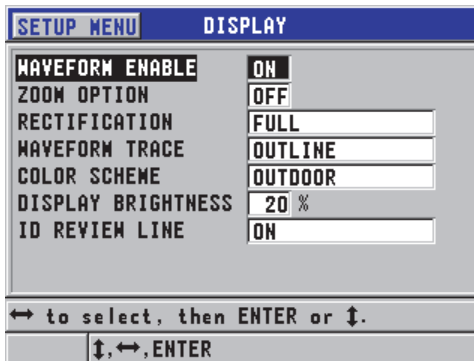

Figure 4-4 The DISPLAY screen
2. In the **DISPLAY** screen (see Figure 4-4 on page 46), select the desired parameter and value for the following parameters:
- In the **DISPLAY** screen (see Figure 4-4 on page 46), set the **COLOR SCHEME** to **INDOOR** or **OUTDOOR**.
2. In the **DISPLAY** screen (see Figure 4-4 on page 46), set the **DISPLAY BRIGHTNESS** to the desired percentage level.